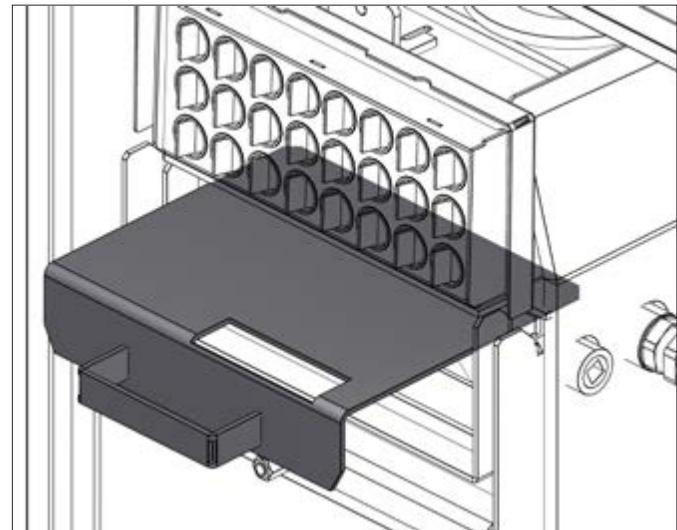

Figure 4-6: Removing baffles from boiler shell
19. Remove baffles from boiler shell. (See Figure 4-6).